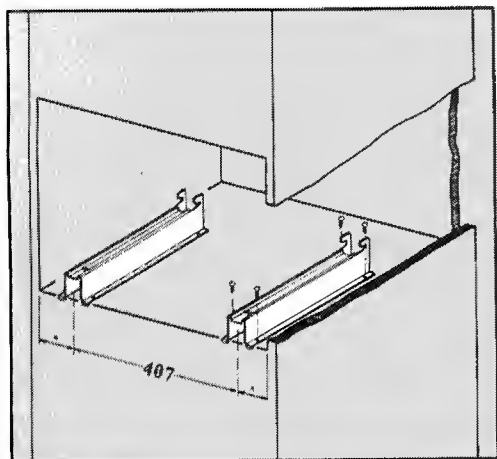

Fig. 6
1. Fix the two supports onto the bottom of recess with 4 screws each (Fig. 6).